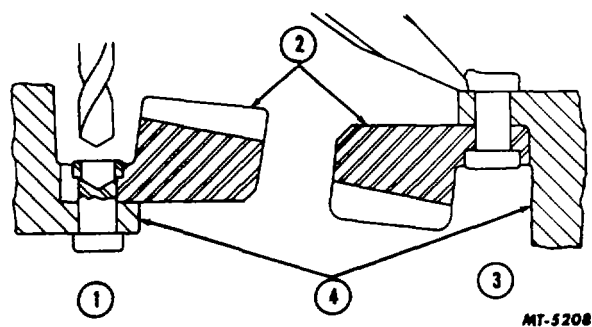

Fig. 15. Drive Gear Rivet Removal
4. To remove drive gear rivets, carefully center punch each rivet head. Next use a drill .8 mm (1/32") smaller than body of the rivet and drill through rivet head, Fig. 15. Use a punch to